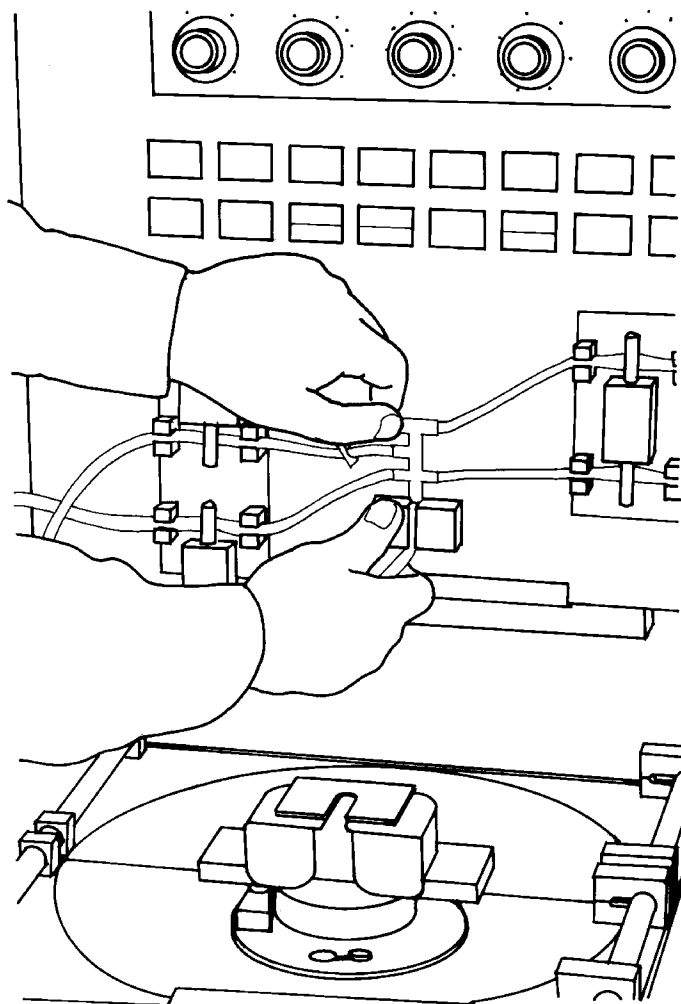

Figure 6-21: Removing the processing set
- 9 Press the TUBE LOAD button. Use the VALVE SELECTOR control and the COLLECT/SOV button/switch (if applicable) to remove all tubing (Figure 6-21) from the valves (V1, SOV, Collect, V2, and V3). This allows any extra solution in the fluid containers and tubing to drain into the waste collection bag.